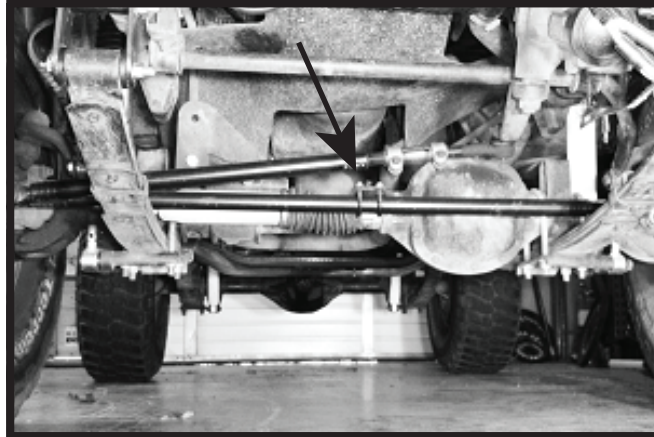

Figure 4
Step 7. Attach H/D steering stabilizer mounting bracket to center link tube (Figure 4) . Reattach the stabilizer and check clearance to the oil pan. Bracket should allow full movement of the stabilizer when in use (left to right as steering is cycled). **NOTE: If factory stabilizer is reused the mounting bolt will need to be cut off of stabilizer. Supplied bolt for stabilizer bracket can then be used.**